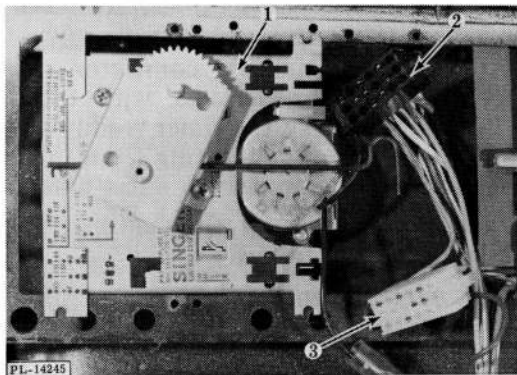

Fig. 16
TIMERS (KDC AND KDI) KDI TIMER (SHOWN) (Fig. 16)
4. Remove timer (1, Fig. 16).
5. KDI Only: Disconnect the two multiple connector plugs (3, Fig. 16) (white) and (2, Fig. 16) (black). Remove one black timer motor lead from white harness lead that connects the "Power On" light.